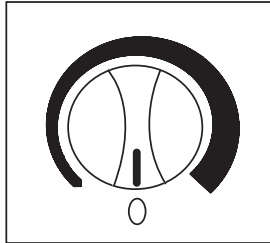

Fig.2
- To turn off the wine cooler, (no cooling) rotate the control knob to the “0” (off) position. See Fig. 2. Turn the control to the “OFF” (0) position to temporarily disconnect the cooling cycle. When the wine cooler is not to be used for long periods of time, disconnect from power and leave the door partially open.